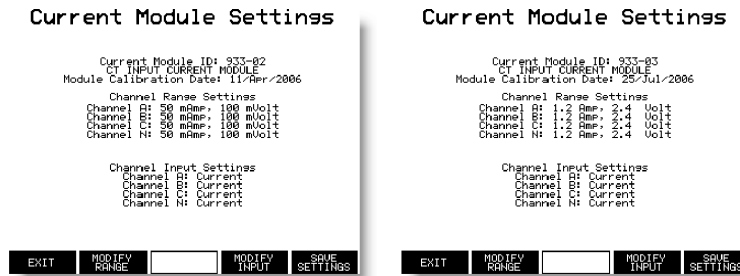

Figure 3.11: Low Current Module Setup Menus
5. Start the 933A and press the SETUP key and 6-Current Setup to check the settings displayed for the module (as seen in Figure 3.11). Select range as desired.
Before using the current module, make sure to press the SETUP key, then 6—Current Setup to configure the range. You should see the screen/menu similar to that shown in Figure 3.11.